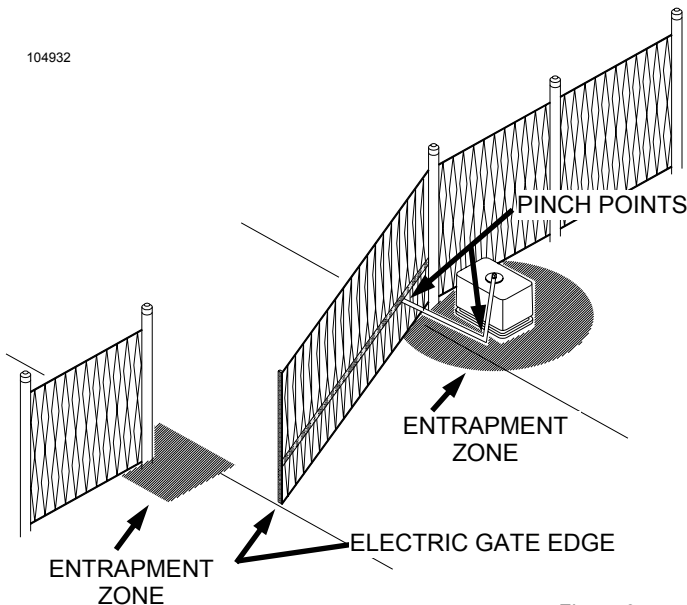

Figure 3
- Use the illustration at left (Figure 3) to minimize the risk of injury in your design of the swing gate operator system. **IDENTIFY THE ENTRAPMENT ZONES AND PINCH POINT AREAS IN YOUR GATE.** Design the gate installation to minimize the risk of entrapment in these areas. Install additional safety equipment such as four wire edges and photocells to further minimize risk. All entrapment zones are required to be protected.
- **Entrapment Zones:** Design in personal entrapment protection devices to protect people from entrapment in the zones shown in Figure 3 at left.
- **Pinch Points:** Use protective measures (guards, padded edges, etc.) to protect people from the pinch points shown in Figure 3 at left.
increases as the gate swings open. **PROTECT THIS "PINCH POINT" SO THIS HAZARD IS AVERTED.** See Figure 3.
- CONSIDER ALL OTHER "PINCH POINTS" IN YOUR DESIGN of the gate system. Observe the arm as it opens and the two arm pieces swing past each other. Use protective measures to reduce hazards at this location. Restrict access to the arm motion. See Figure 3.